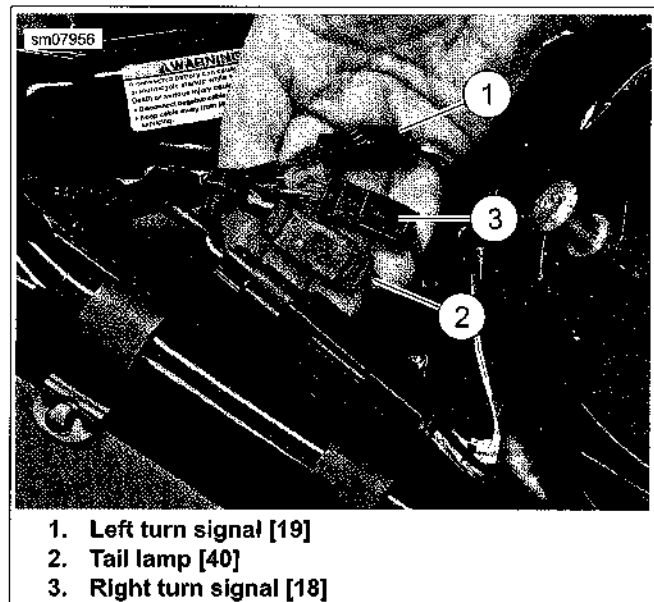
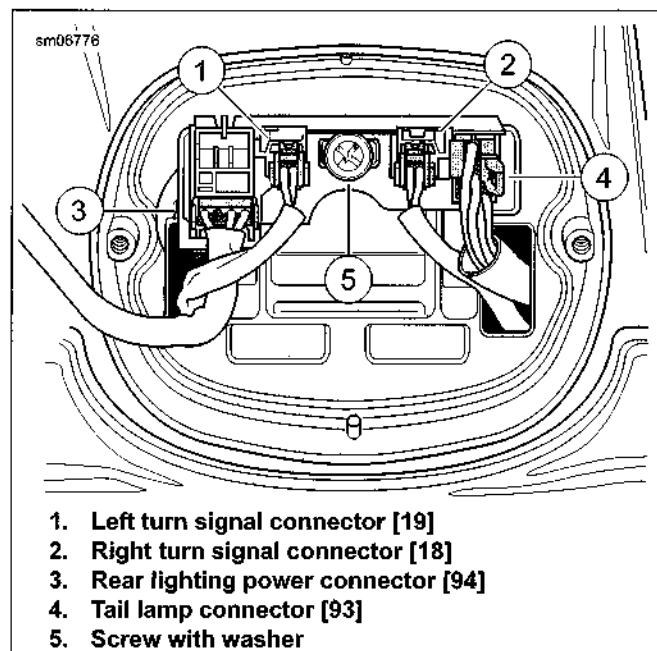
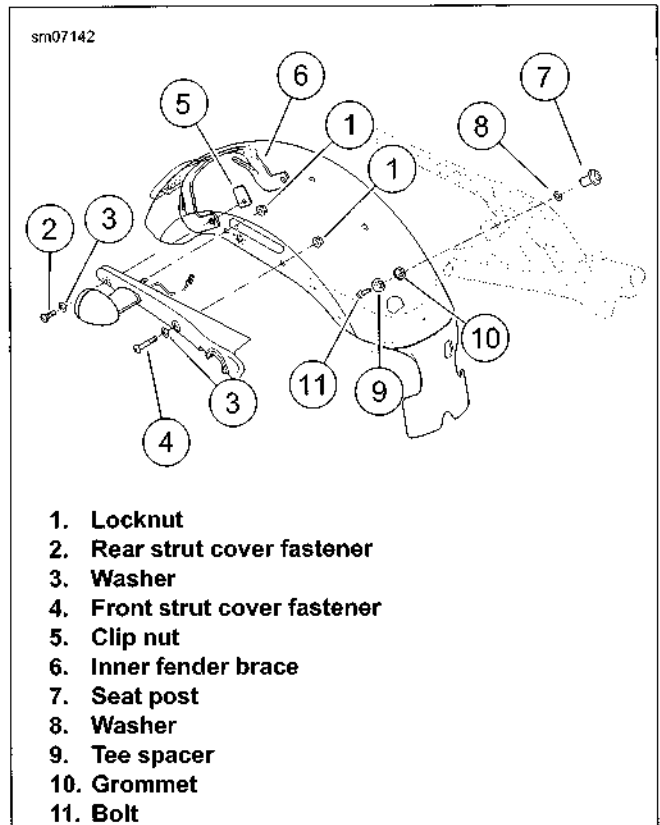

Figure 2-140. Rear Lighting Connectors
Figure 2-141. Tail Lamp Housing
Figure 2-143. Rear Fender Assembly: XL 883R/L, CAN XL 883N, XL 1200V/X
3. See Figure 2-140. Disconnect rear lighting connectors.
- a. Right turn signal [18] (3)
- b. Tail lamp [40] (2)
- c. Left turn signal [19] (1)
- b. See Figure 2-141. Unplug left [19] (1) and right [18] (2) turn signal connectors from rear lighting circuit board.
- a. See Figure 2-143. Support fender. Remove front strut cover fastener (4), washer (3) and locknut (1), and rear strut cover fastener (2), washer (3) and clip nut (5). Repeat previous step on opposite side.
- c. Remove bolt (11), seat post (7) and washer (8) to detach top of fender from frame cross member tab.
- See Figure 2-143. Align holes in fender with holes in struts. Support fender and install fasteners (4, 2) through fender struts and fender to hold fender in place.
- Secure front of fender with bolt (11), washer (8) and seat post (7). Finger-tighten.
8. Install locknut (1) onto turn signal stalk from inside fender. Finger-tighten.
9. Secure fender to strut with fasteners (4), washer (3) and locknut (1) in forward mounting hole.
10. Install fastener (2), washer (3) and clip nut (5) in aft mounting hole. Finger-tighten.
- c. See Figure 2-140. Connect tail lamp connector [94] (3) and left [19] (1) and right [18] (2) turn signal connectors.